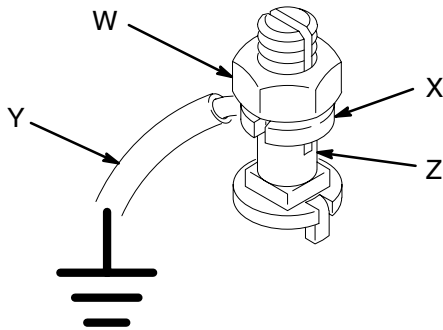

Fig. 1
1. *Pump*: use a ground wire and clamp. See Fig. 1. Loosen the grounding lug locknut (W) and washer (X). Insert one end of a 1.5 mm² (12 ga) minimum ground wire (Y) into the slot in lug (Z) and tighten the locknut securely. Connect the other end of the wire to a true earth ground. See the **Accessories** section to order a ground wire and clamp.